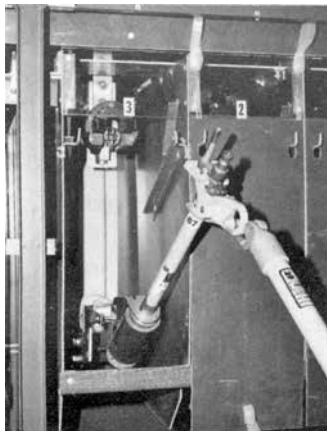

Figure 19.
6. If optional dual-purpose barriers are supplied, use grappler to install into slide-in position to provide barrier between Auto-jet® fuse interrupter and fuse bottom hinge. See Figure 19.
8. Remove optional dual purpose barriers, if supplied, using grappler. See Figure 19.